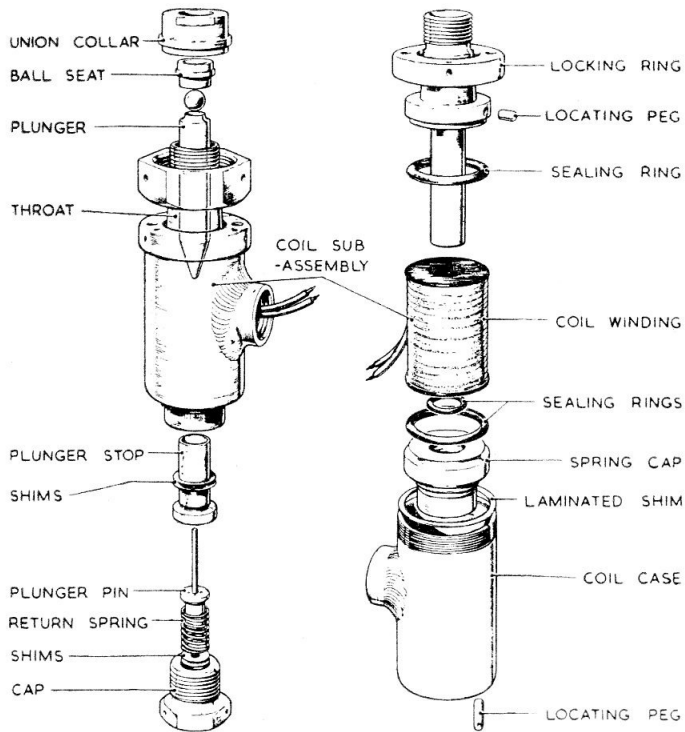

Fig. 3. Solenoid assembly—exploded
8. The coil winding (*fig. 3*) is sealed by the use of O-section sealing rings at the top and the bottom of the winding bobbin. Fuel seeping past the plunger into the solenoid base is prevented from forming a hydraulic lock by a hole in the bottom cap which allows this fuel to escape.